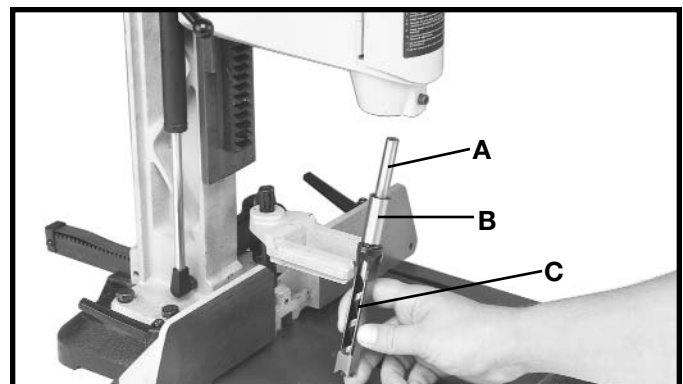

Fig. 10
1. Insert bit (A) Fig. 10, into chisel (B). **NOTE:** The opening (C) on the side of the chisel should always be to the right or left, never to the front or rear. The opening allows chips to escape during operation.